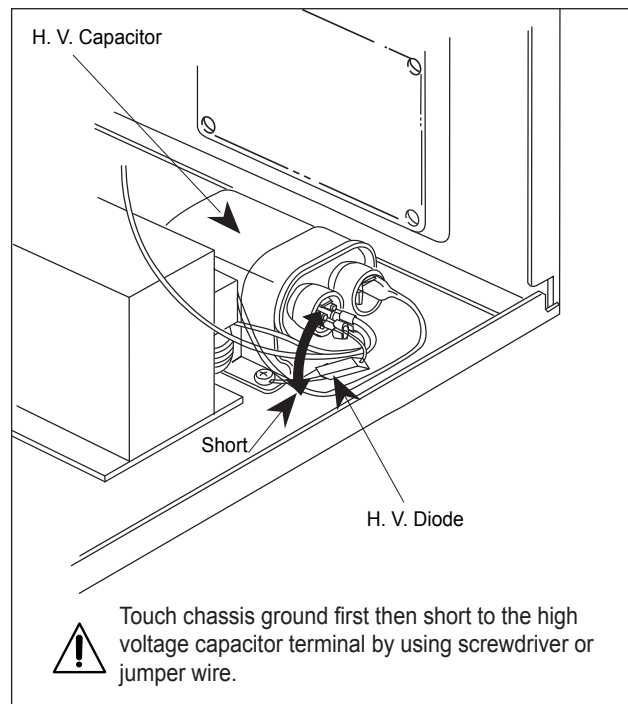

Fig. 1-1 Discharging High Voltage Capacitor
1. High Voltage Warning Do not attempt to measure any of the high voltages--this includes the filament voltage of the magnetron. High voltage is present during any cook cycle. Before touching any components or wiring, always unplug the oven and discharge the high voltage capacitor (See Figure 1-1)